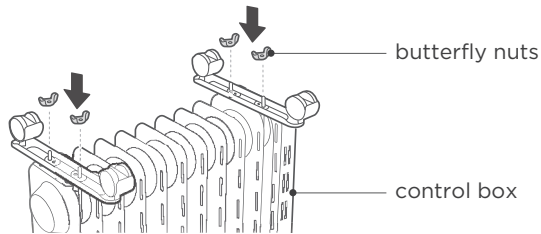

figure 2
- 3 As shown in figure 2, two sets of caster components are tightened with four butterfly nuts. Install solid and then put the heater in place-just put the wheels on the ground.